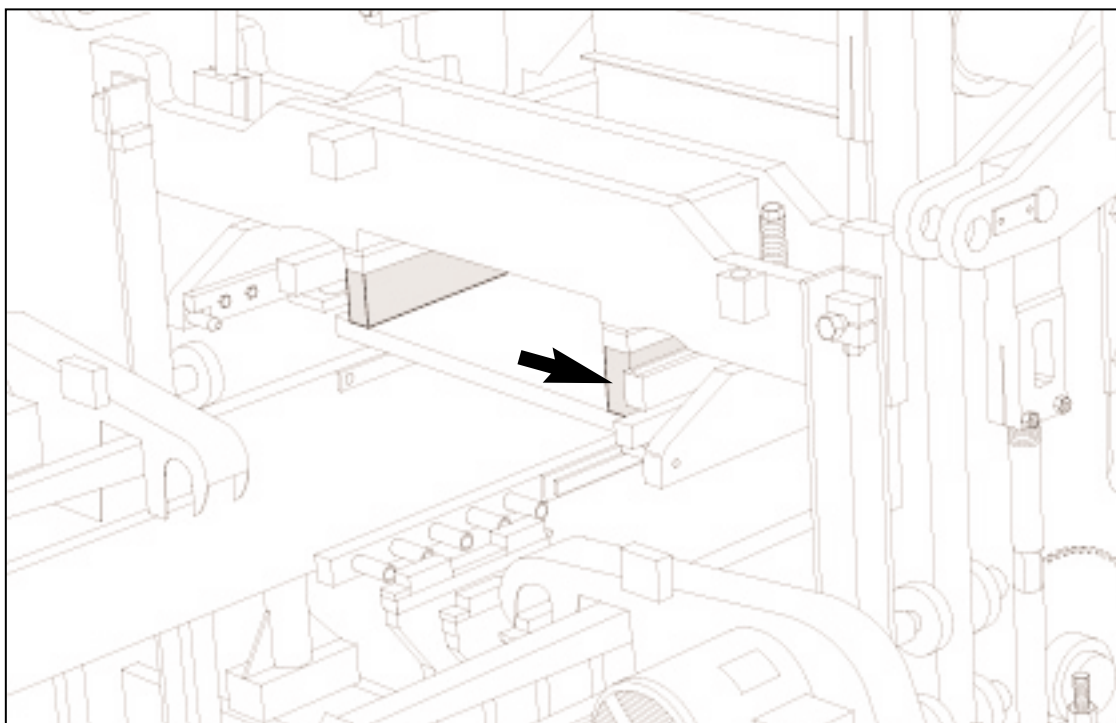

Figure 4.62 95mm (3 3/4") BLOCKING UNDER STRIPPER HEAD FRAME.
- 4.4.9 The ULTRAPAC II is now ready for the installation of the mold assembly. Follow the directions for installing an attachment in section 5 of this manual. When installing the stripper head, use **356 mm [11"]** long bolts (**part #087159**) and insert **95mm [3 3/4"]** of blocking in addition to the **38mm [1 1/2"]** blocks already affixed to the stripper head frame (figure 4.62).